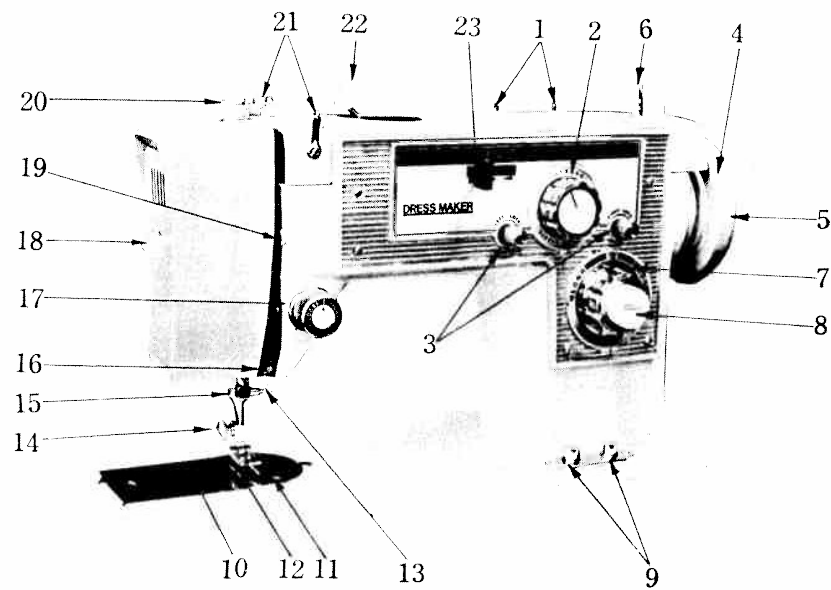

Fig. 1
Raise the needle bar A to its highest point turning the balance wheel 4 Fig. 1, toward you by hand. Loosen the needle clamp screw B. Remove the old needle and slide the new one up, FLAT SIDE FACING TO RIGHT, as far as it will go. Tighten the needle clamp securely with a screw driver.
Open the slide plate (10, Fig. 1) by sliding it out. With left thumb and forefinger, open the hinged latch (D) at the front of the bobbin case and hold securely as you draw bobbin case from the stud of the shuttle body (C). When held in the above manner the bobbin will not fall out of the bobbin case.